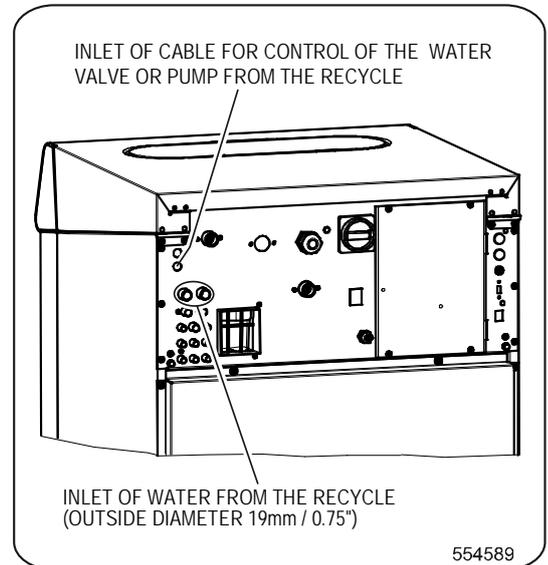

Figure 19
- Drill out the protective screens of the water inlet from the recycle utilizing a drilling bit of 15mm / 0.59" diameter, see Figure 19. We do not recommend piercing the screens open - it could lead to blockage of the water channel.
- Fit a cable bushing into the opening (see Figure 19) and pull the cable through the bushing.